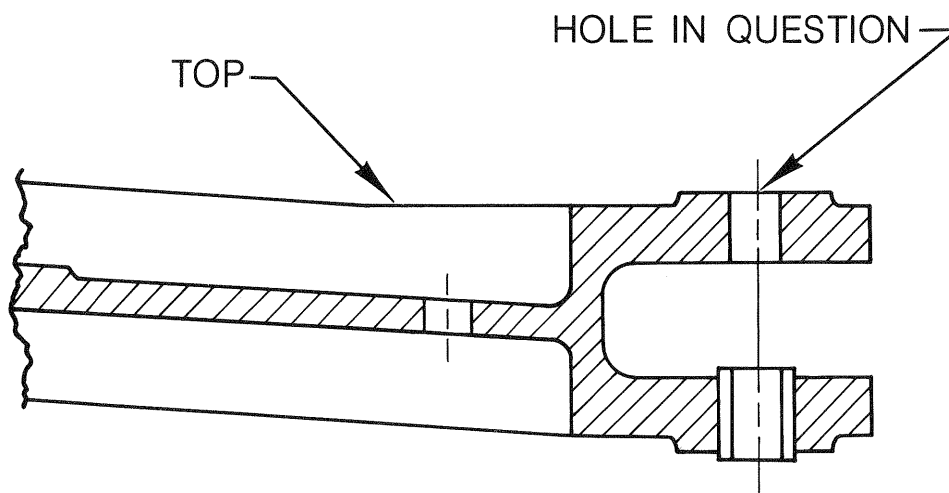

Figure B-236-1. 269A6042 Bellcrank Assembly Segment
- a. Remove bolt attaching bellcrank assembly to tail rotor control rod (BHMI, Section 9). Determine assembly upper hole size (Figure B-236-1).
- (1) Do NOT rework bellcrank assembly. Return assembly to SAC.
- (2) Replace bellcrank assembly with serviceable spare and reassemble after inspecting condition of tail rotor control rod (BHMI, Section 9).
- (3) Contact SAC Product Support Department.